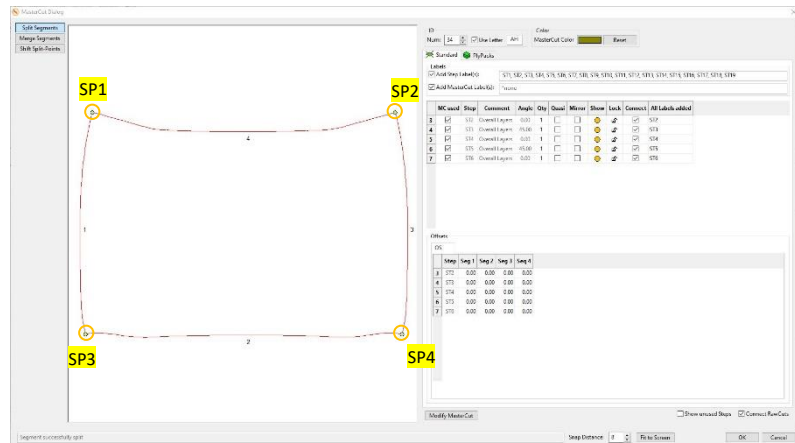

Figure 297
93. ... and for MasterCut AH and split the outer geometry as shown in Figure 297...